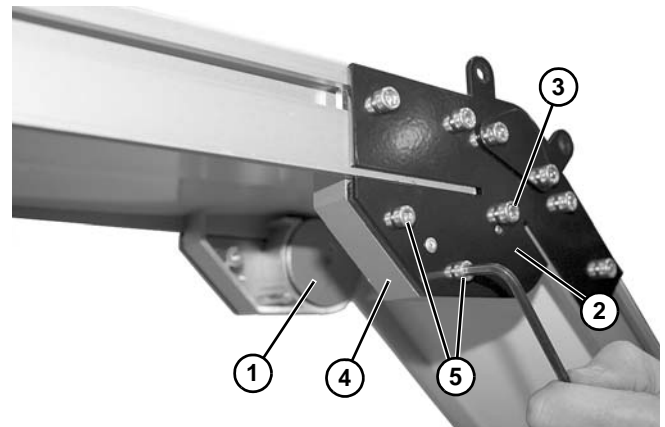

**Figure 75**
2. Orient belt so splice leading fingers (**Figure 75, item 1**) point in the direction of belt travel as identified by the conveyor directional label (**Figure 75, item 2**).